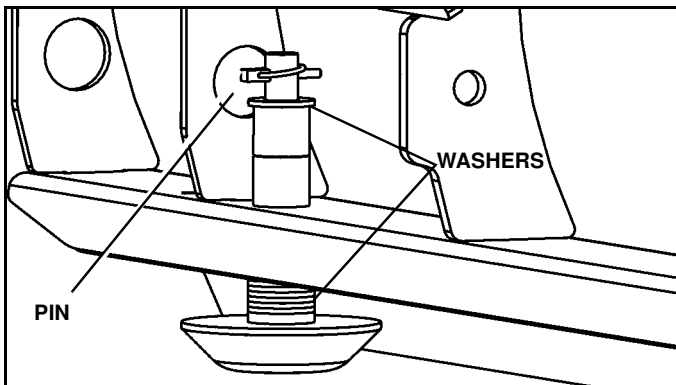

Figure 1-46
4. Adjust shoe assemblies by removing shoe mounting lynch pin and adding or subtracting washers on the top or bottom of the shoe-mounting bracket. (See Figure 1-46).